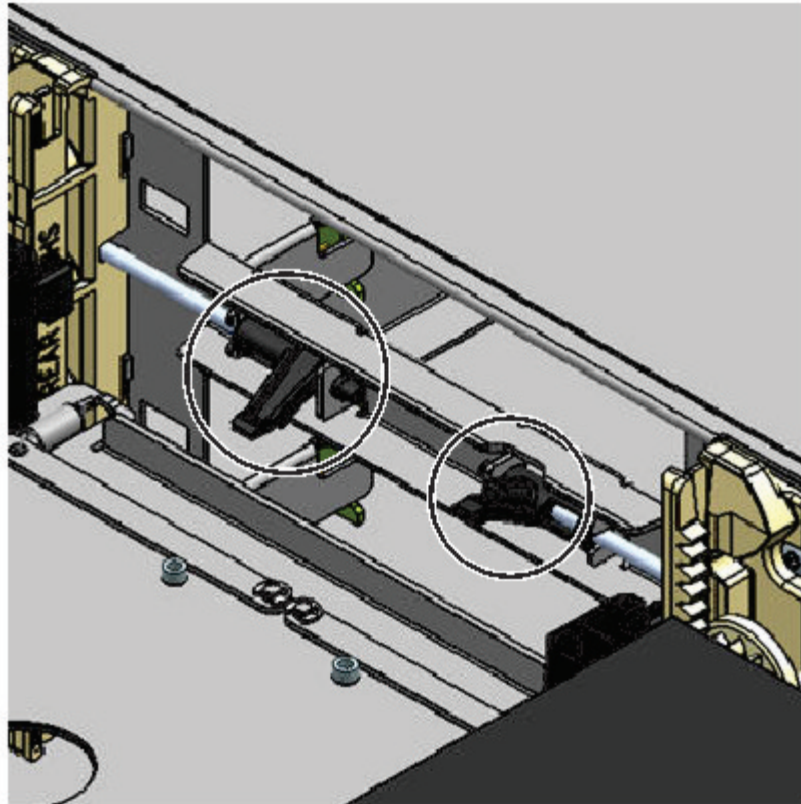

Figure 70. Magazine release levers
1. Remove the left and right magazines by using the magazine release levers (circled in Figure 70 on page 132). Push up on the lever, then pull the magazine out.